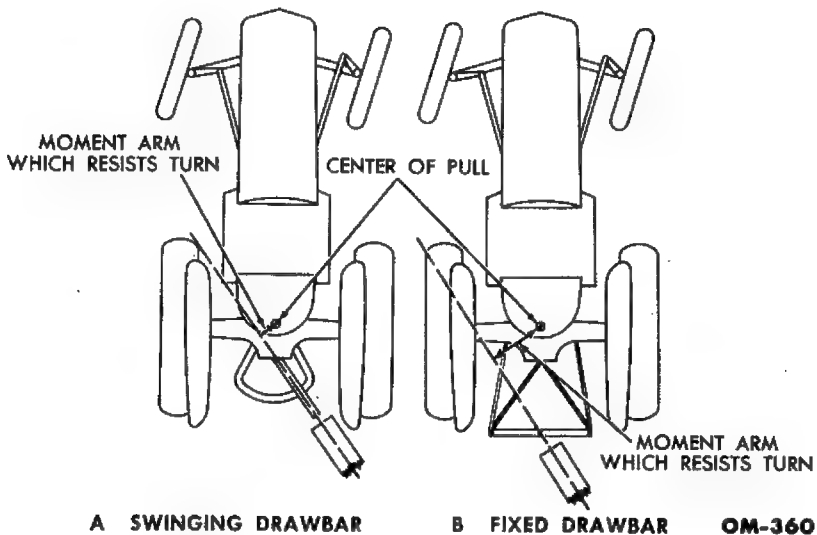

Fig. 19—Turning With a Drawbar Load
d. **Swinging Drawbar.** A swinging drawbar may be used on many drawbar loads. It is easier to turn the tractor when the swinging drawbar is used. This may be accomplished by reducing the moment arm (leverage) of the load force which is resisting the turning effort, as shown in fig. 19.